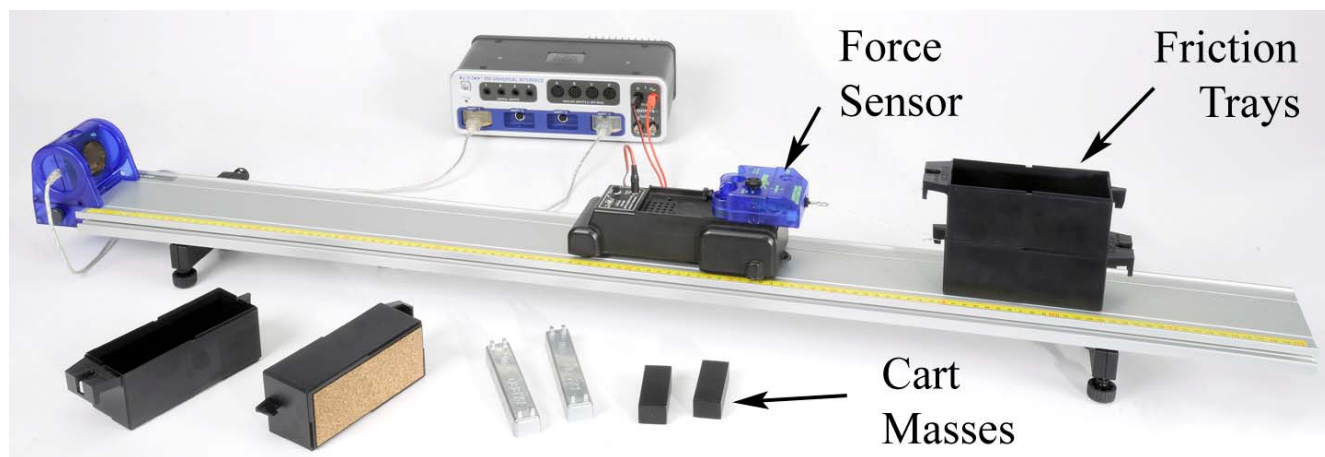

Figure 1: Measuring Sliding Friction
The Friction Trays have different materials on their bottom surface. The Motorized Cart (see Fig. 1) is used to pull the trays in a controlled manner along the track, as the Force Sensor directly measures the frictional force. All parameters are investigated, including speed, normal force, and surface area.
1. Set up the track as shown in Figure 1, and use the adjustable feet to level the track.